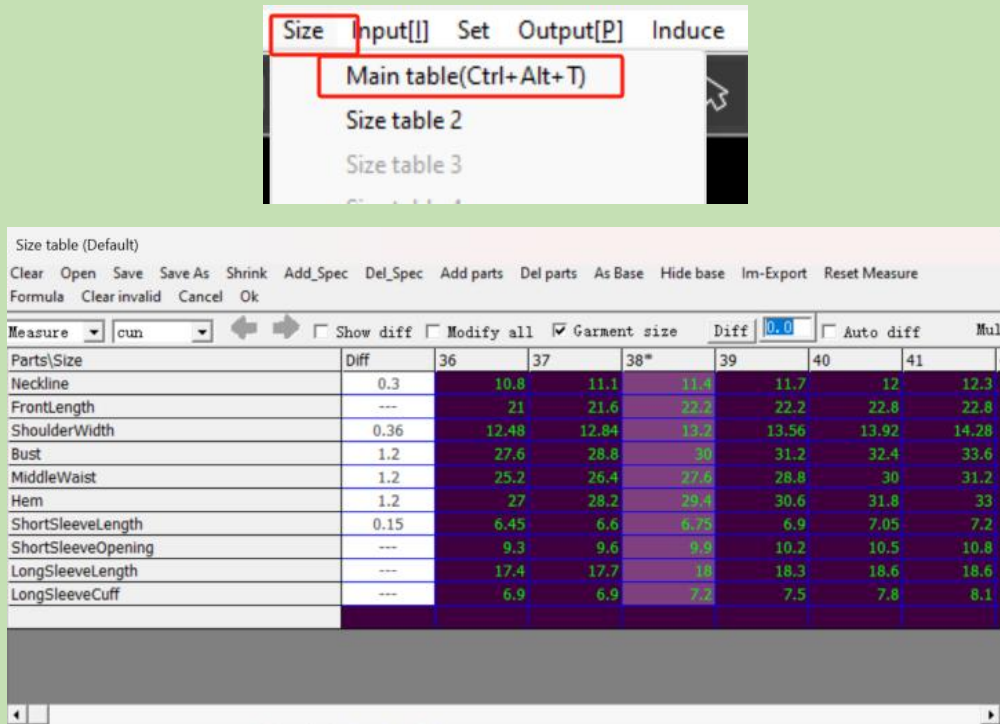

Figure 3-1
1. Open the size chart (Figure 3-1).